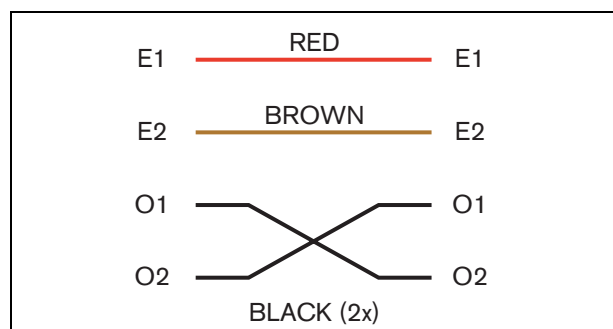
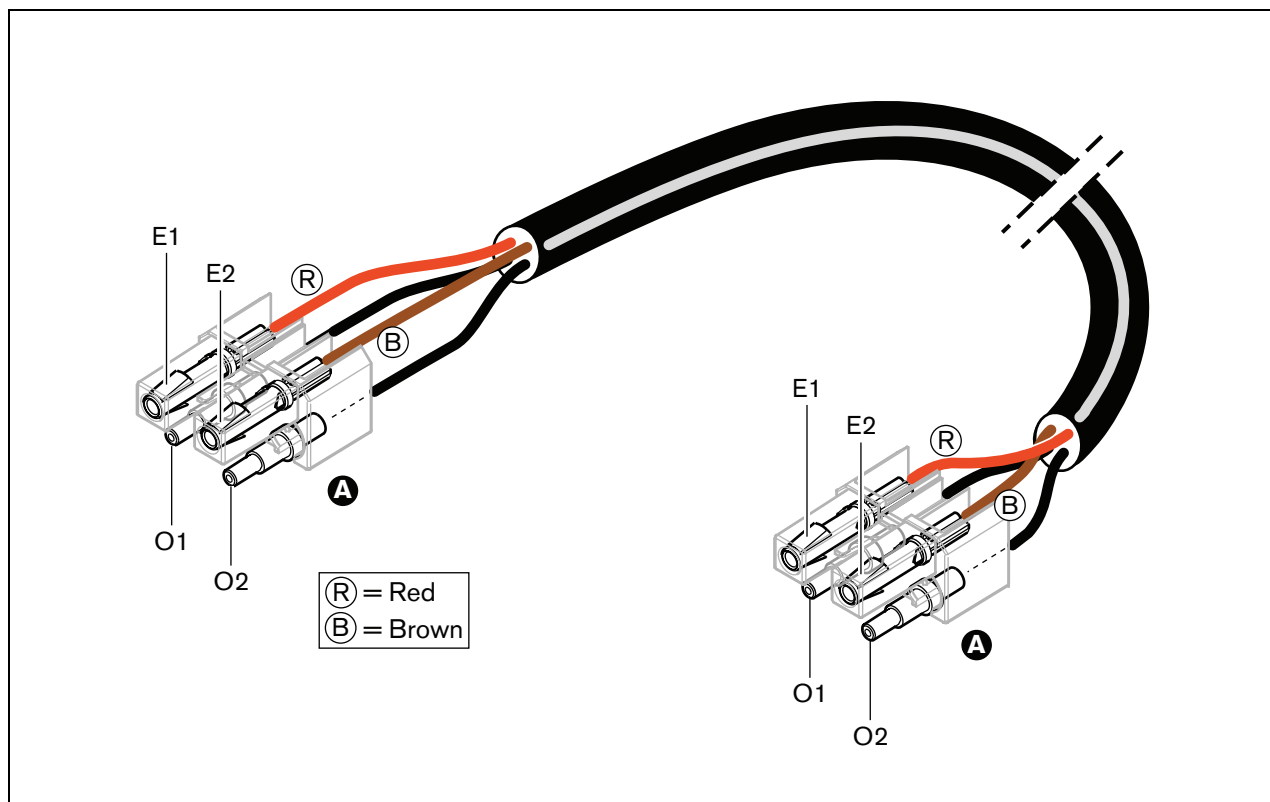
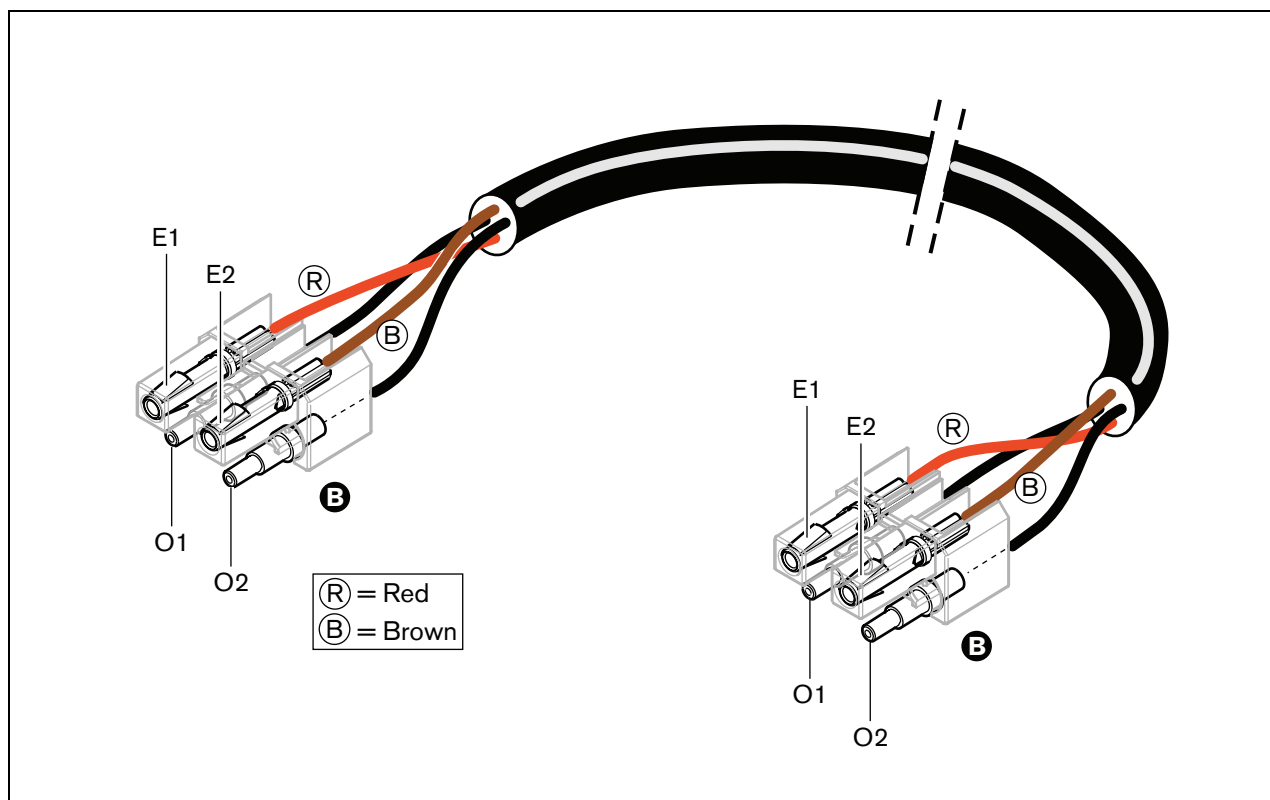
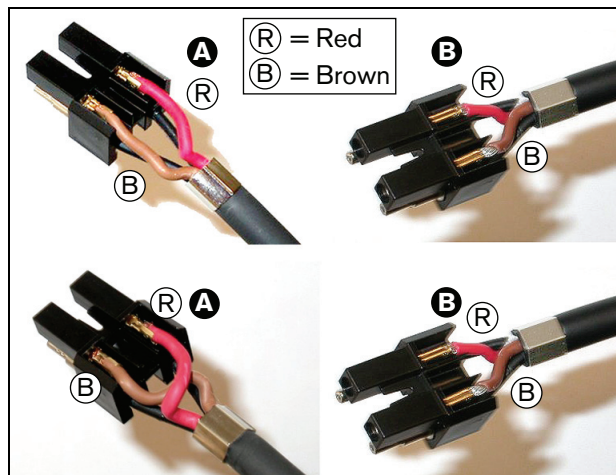

figure 30.28: Wiring diagram
figure 30.29: Wiring diagram applied to type A optical network cables
figure 30.30: Wiring diagram applied to type B optical network cables
figure 30.33: Mounting block and back housing
Also, observe the wiring diagram (see figure 30.28). For the practical implications of this diagram, see figure 30.29 and figure 30.30).
- 28 Put the socket contacts in the mounting block (see figure 30.33). In one of the connectors attached to a type A cable, the red and brown copper wires must cross to meet the wiring diagram (see figure 30.28).